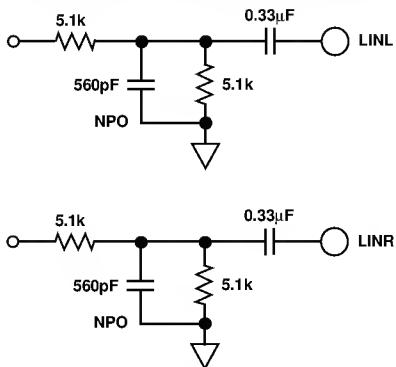
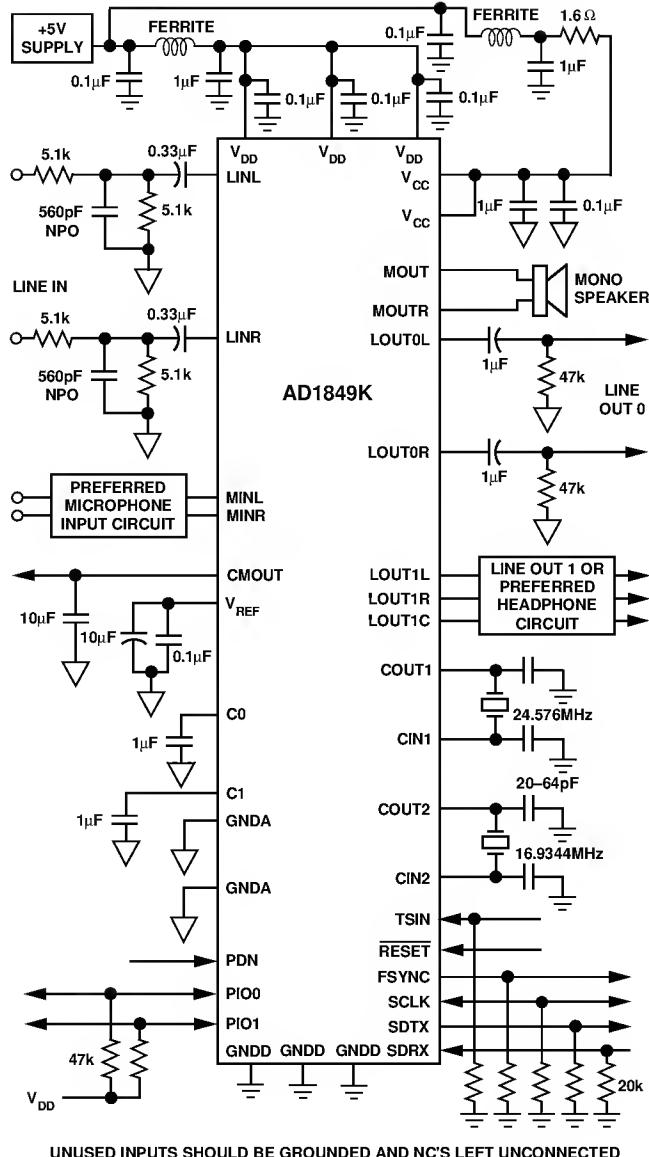

Figure 11. AD1849K 2 V rms Line-Level Input Circuit
Figure 21. Typical Connection Diagram
The AD1849K Stereo Codec has been designed to require a minimum of external circuitry. The recommended circuits are shown in Figures 11 through 20 and summarized in Figure 21. Analog Devices estimates that the total cost of all the components shown in these Figures, including crystals, to be less than \$5 in 10,000 piece quantities.
A circuit for 2 V rms line-level inputs is shown in Figure 11. Note that this is approximately a divide-by-two resistive divider.
The two PIO pins must be pulled HI, as they have open drain outputs. Analog Devices also recommends pull-down resistors for SCLK, FSYNC, SDTX, SDRX, and TSIN to provide margin against system noise. CLKIN, CIN 1, and CIN 2, if not used, should be grounded. A typical connection diagram is shown in Figure 21, which serves to summarize the preceding application circuits.
- The AD 1849K requires an external passive antialias filter as shown in Figure 11. In contrast, the recommended input circuit for the CS4215 is a single-pole active filter requiring a dual op amp. Though overkill for the AD 1849K, this input circuit will work with the AD 1849K as well.